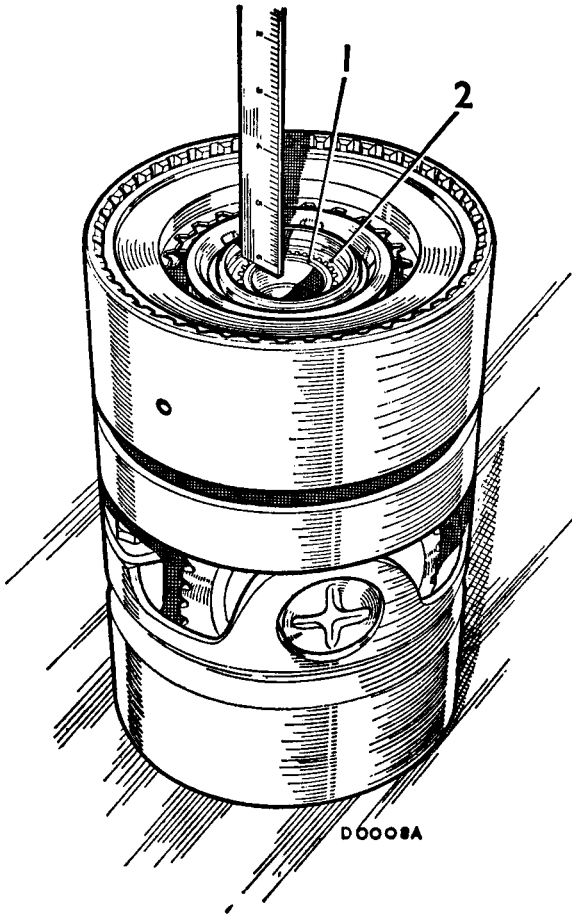

Fig. Fa.56
32. Check across the splined end of the reverse output shaft and the adjacent face of the top and reverse clutch (Fig. Fa.56). Both faces must be exactly level with no gap, to ensure that the third speed reaction gear has no end-float and the correct backlash is maintained. If both faces are not level, remove and measure the thickness of the selective steel washer fitted in item 31 and fit the correct selective washer from the range available (see washer chart below).
35. Carry out items 26 to 31.
36. Carry out item 32 to determine whether the splined end of the reverse output shaft and the face of the top and reverse clutch are level (see Fig. Fa.56), if they are not, fit the correct selective washer from the range available (see washer chart below).